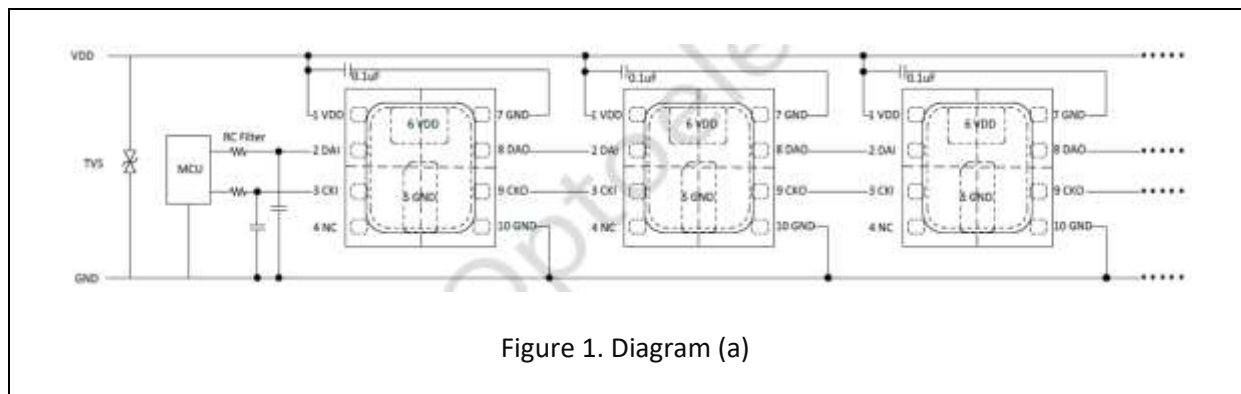

Figure 1. Diagram (a)
Figure 1 presents the recommended LED connection circuit for practical implementation. In diagram (a), the inclusion of an RC filter, a bypass capacitor, and a TVS diode is advised to improve noise immunity and stabilize the power supply. Pin 4 (NC) of the LED should be left floating and must not be connected.